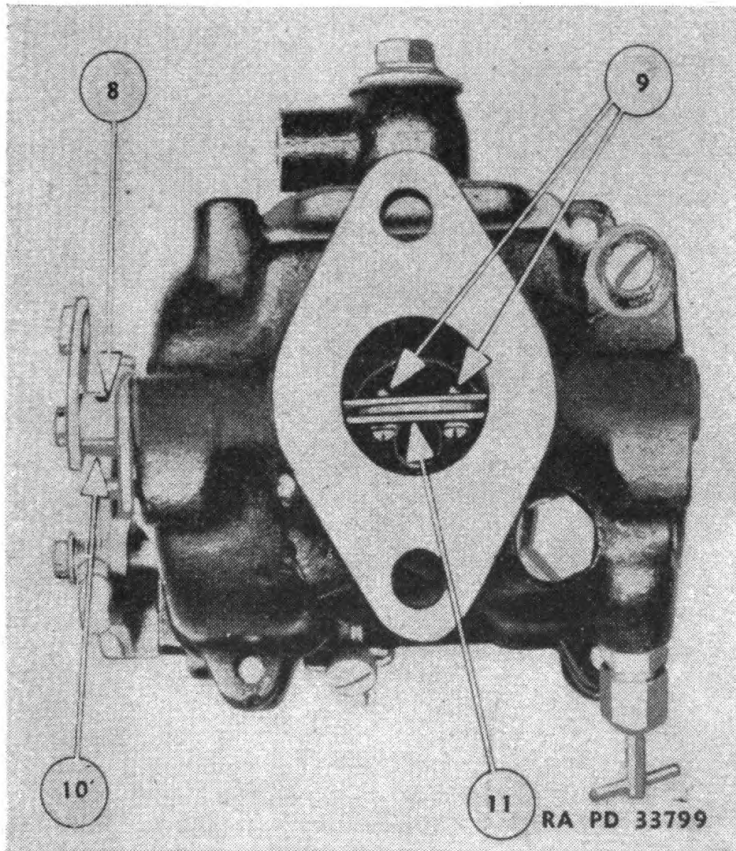

FIGURE 81.—Carburetor.
79. Throttle shutter.—Remove screws (9) (fig. 81). The shutter will slide out of the shaft and shaft (11) can be withdrawn. Drive taper pin (8) out of stop assembly. The stop assembly (10) will now come off the shaft. The shaft packing in the housing should be replaced.